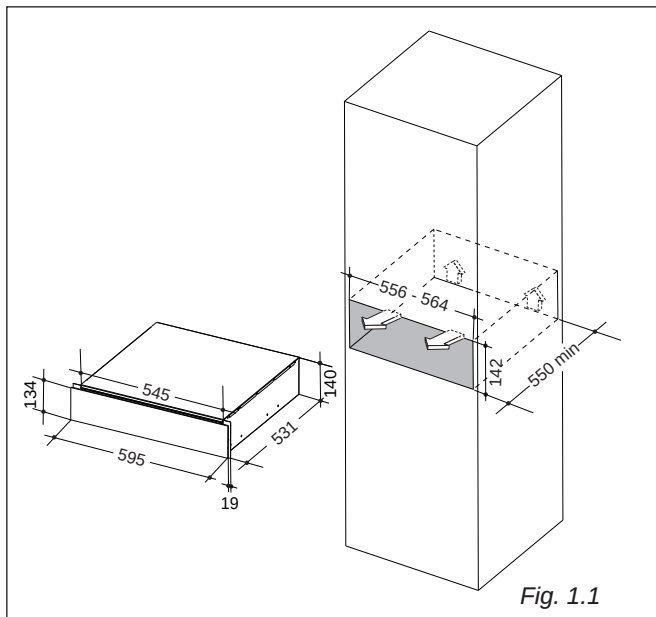

Fig. 1.1
- Installation requires a compartment as illustrated in figures 1.1 or 1.2.